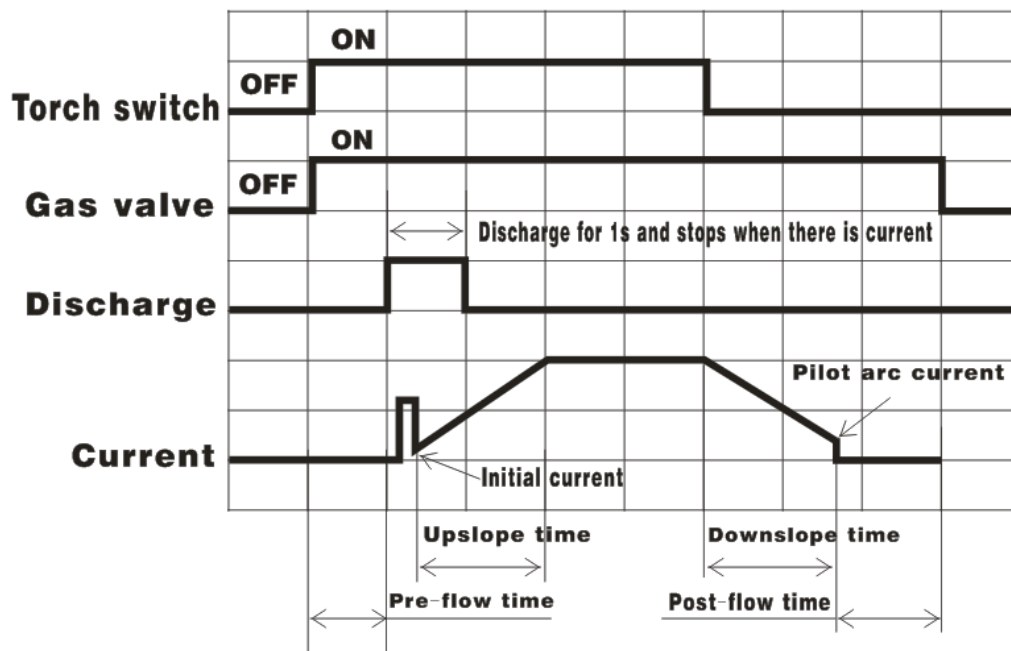

Fig 3-2 2T operation
1) 2T operation as shown in Fig 3-2